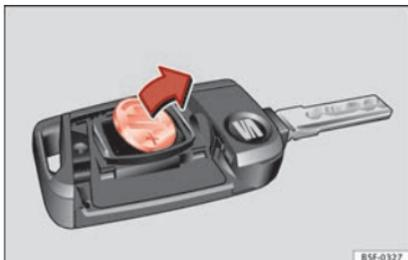

Fig. 135 Vehicle key: removing the battery.
- Extract the battery from the compartment using a suitable thin object »» Fig. 135.
- Place the new battery in the compartment as shown »» Fig. 135, pressing in the opposite direction to that shown by the arrow »» ❷.